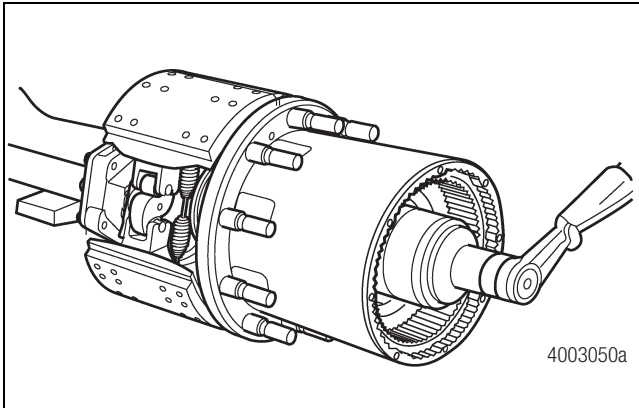

Figure 3.43
5. Rotate the wheel hub assembly fully, back and forth, several times. Recheck the adjusting nut torque. Back off the adjusting nut 1/16 turn. This step is important and either the wheel studs or the planetary spider capscrew holes may be used as potential references for backing off the adjusting nut. Figure 3.43.